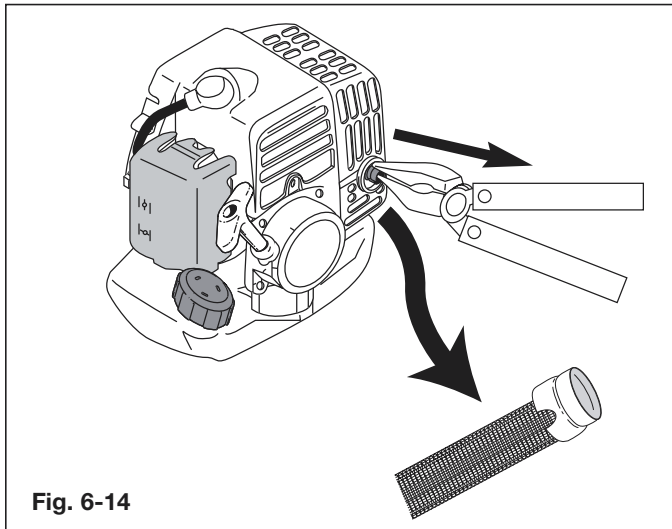

Fig. 6-14
2. Use a needlenose pliers to grasp the collar of the spark arrestor and pull it out of the muffler (Fig. 6-14).